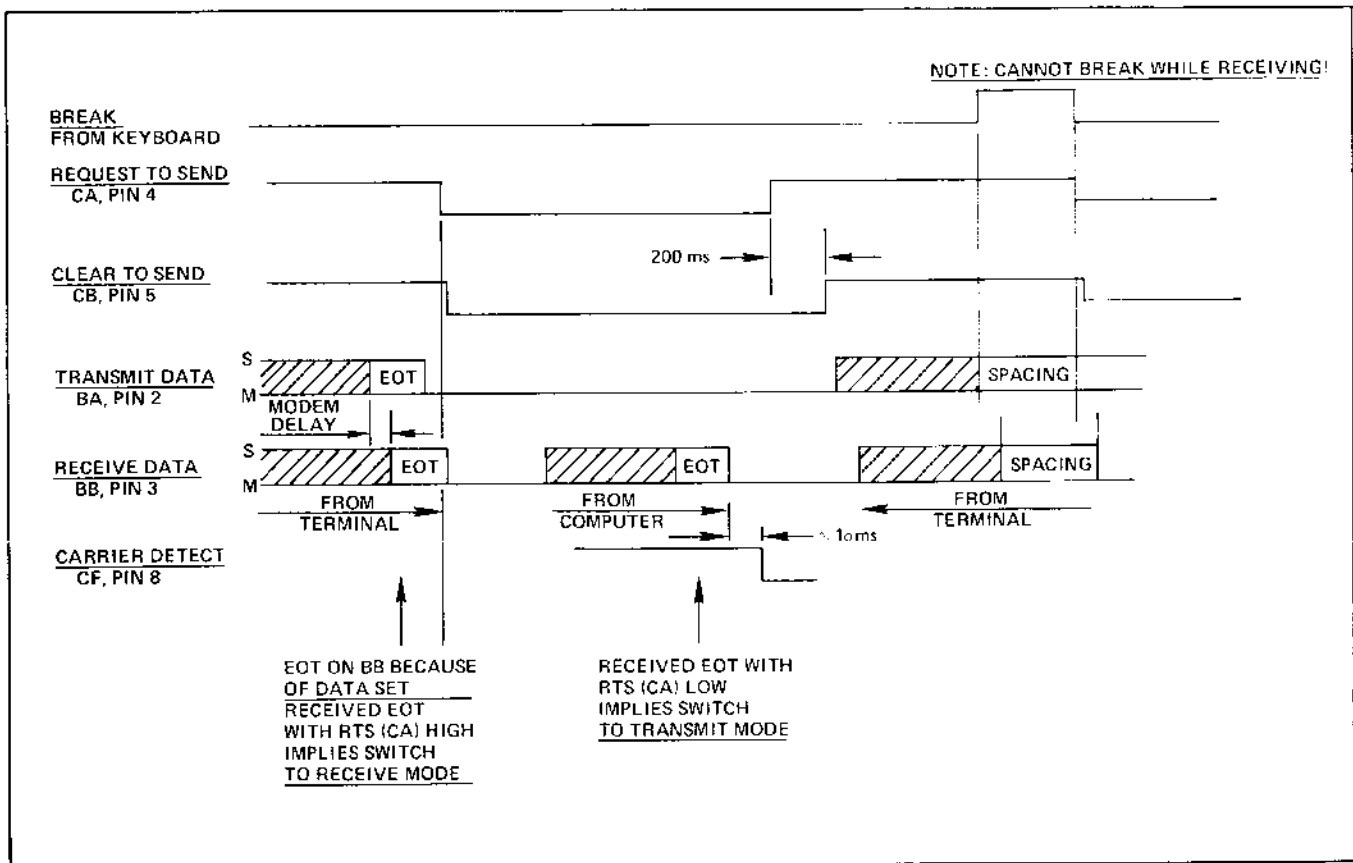

Figure 4-16. Interface Timing for Code Turnaround
**4.3.17.1 Code-Turnaround Control.** Either an ETX code or an EOT code may be selected to initiate turnaround, depending on the position of the ETX-EOT switch. When the selected code appears in the input data, LATCHED CODE is set. When CARRIER DETECT falls (figure 4-16), indicating that the remote end of the line has dropped, RTS is set.